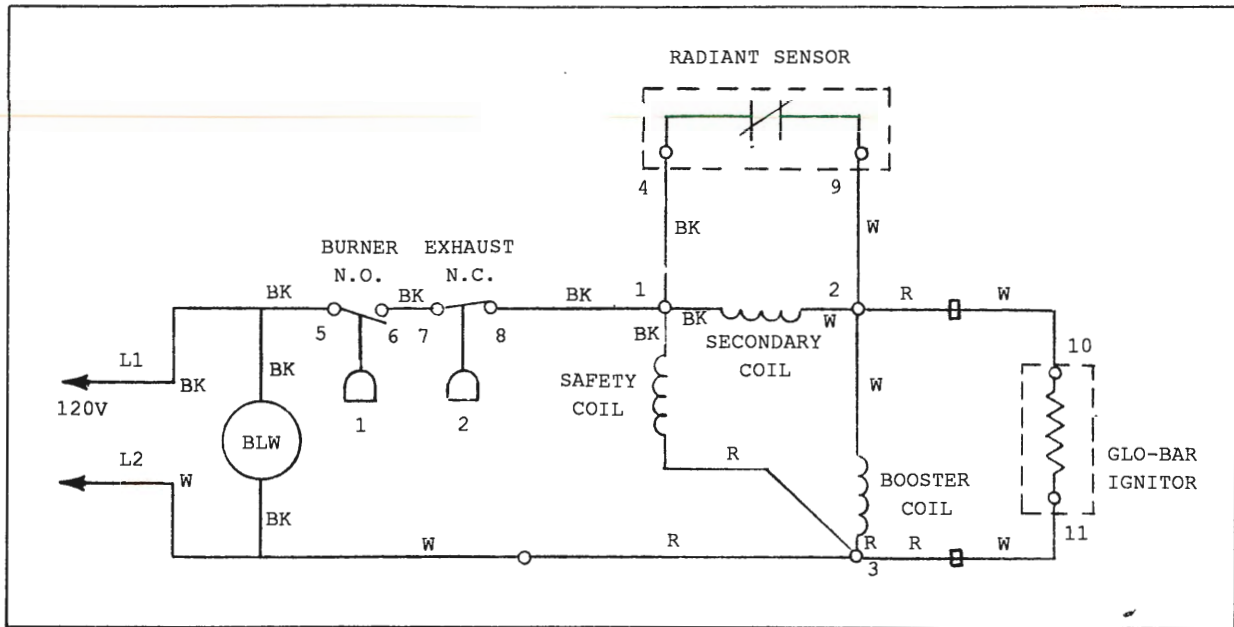

Figure 3-1
• Starting Circuit (Figures 3-1 and 3-2)